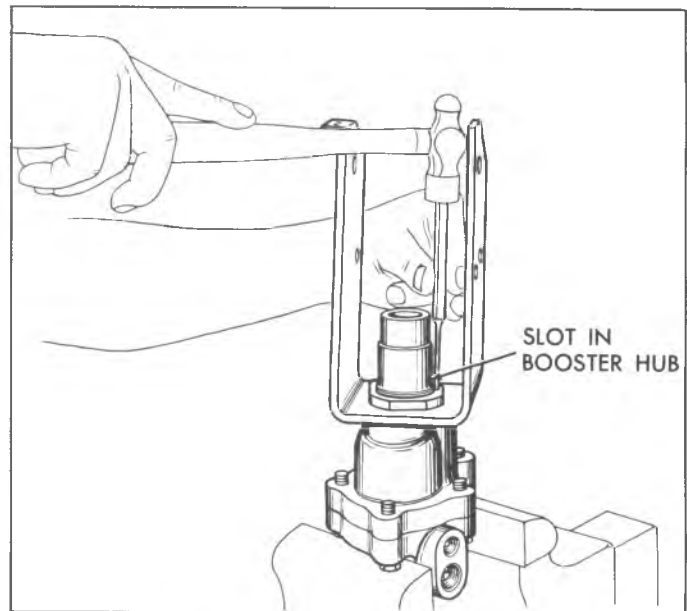

Fig. 10E--Staking Linkage Bracket Nut (Typical)
16. Use a hammer and a small punch inserted into the staking groove of the nut, at the slot in the booster hub (fig. 10E), to stake the nut in place. Be sure that the outer thread of the nut is upset.